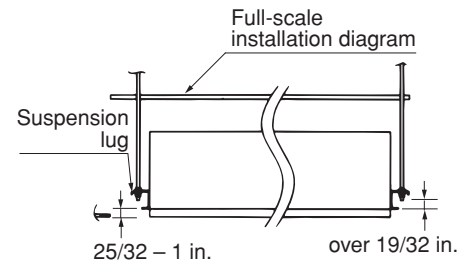

Fig. 3-33
- Make sure that the length of suspension bolts from the bottom of the unit is 19/32 in. or more. (Fig. 3-33)
- The length of the suspension bolts must be such that there is a space of at least 19/32 in. below the bottom of the suspension lugs, as shown in Fig. 3-33. If the length of the suspension bolts is too long, the bolts may interfere with the ceiling panel and louver motor, preventing their installation.